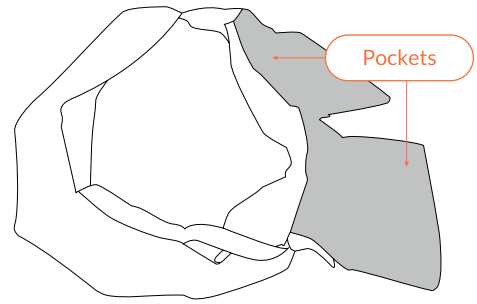

Fig 51 - Lay pockets outside of empty bag
6. Once the platform has been fully rolled it can be placed back into the bag, before doing so ensure the bag is fully open with the pockets (Ocean & Voyager series only) facing out see (Fig 51). NEVER store uncovered or out of the bag.